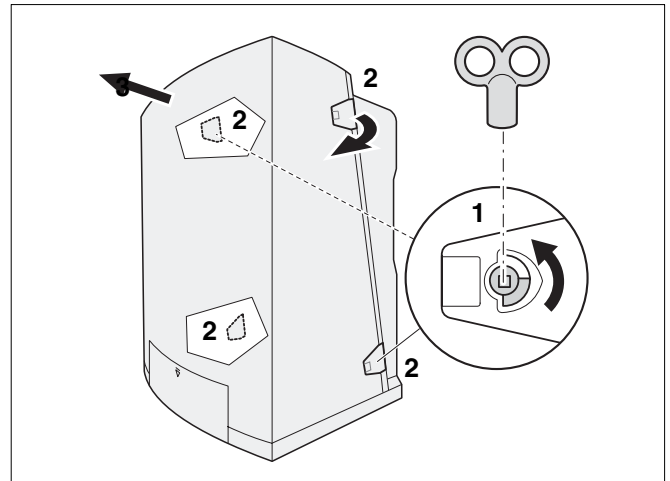

Fig. 7 Removing the casing
- Use the radiator key to unlock the two latches a quarter turn (fig. 7, pos. 1).
- Open the latches (fig. 7, pos. 2).
- Remove the casing by lifting it upwards and then pulling it forwards (fig. 7, pos. 3); do not hold it by the latches.